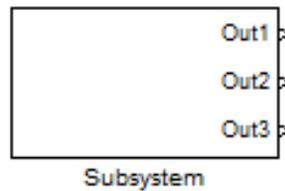

Figure 8.5: Subsystem
- (b) While all the blocks are selected, right click on one of the blocks and click Create Subsystem. This command will combine all the blocks into a subsystem and your model will look as shown in Figure 8.5.